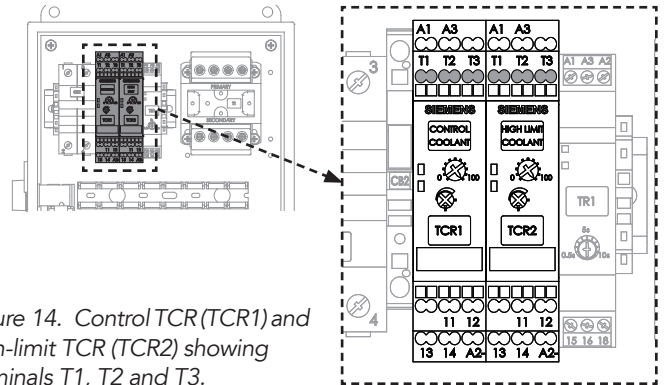

Figure 14. Control TCR (TCR1) and high-limit TCR (TCR2) showing terminals T1, T2 and T3.
3. Using the ohmmeter, measure the resistance between TCR terminals **T1** and **T2**. (See Figure 14.)
- If there **is no continuity** between TCR terminals **T2** and **T3**, locate connected RTD on the heating tank. Unscrew the RTD plug from RTD. See Table 2 and Figure 14, Figure 15. on following page.